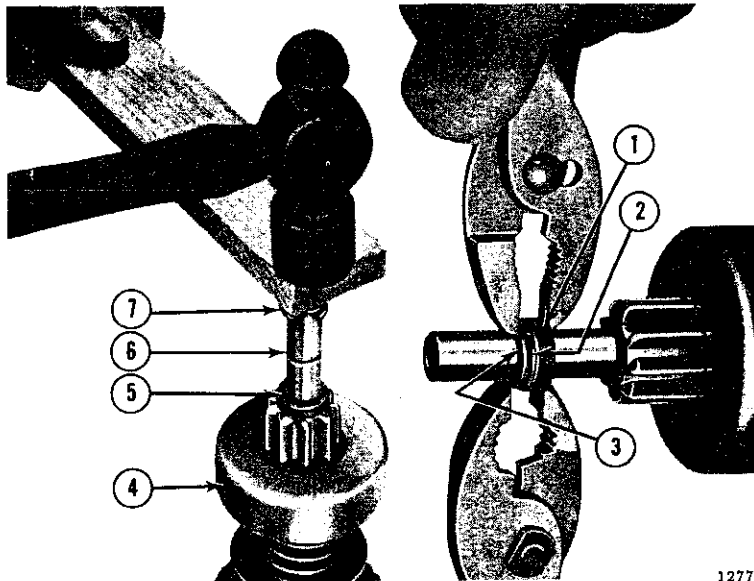

FIG. H-49—INSTALLING PINION STOP RETAINER AND THRUST COLLAR ON ARMATURE SHAFT
d. Install pinion stop retainer on armature shaft with recessed side outward. Place a new snap ring on drive end of shaft and hold it in place with a hard wood block. Strike block with hammer to force snap ring over end of shaft; slide the ring down into groove in shaft. See Fig. H-49, left hand view.
e. Place thrust collar on armature shaft with shoulder next to snap ring. Move the retainer into contact with ring. Using pliers on opposite sides of shaft, squeeze retainer and thrust collar together until snap ring is forced into the retainer. See Fig. H-49, right hand view.